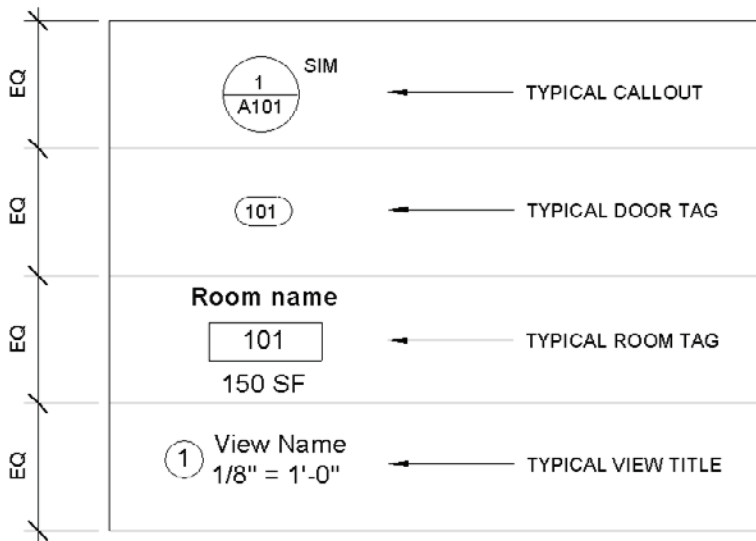

FIGURE 11.53 Draw the horizontal lines, and then equally constrain them using the Dimension command.
9. Move the symbols and the text to the proper positions (see Figure 11.53).